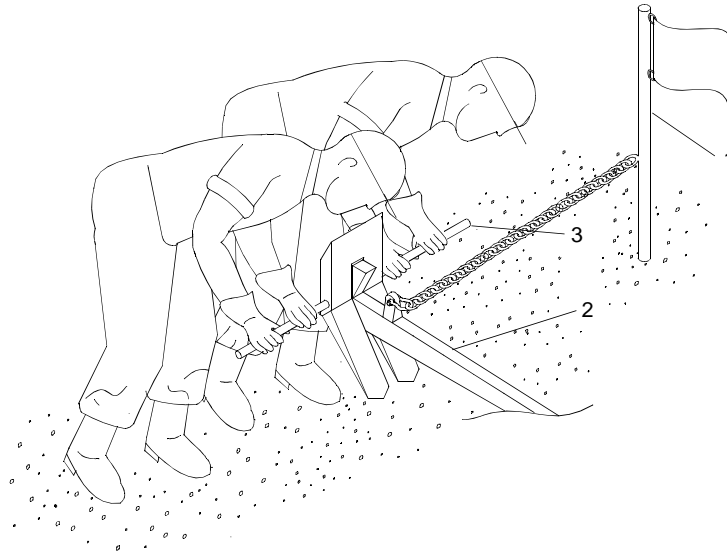

Figure 20. Extracting Onshore Anchors from Beach
10. Remove anchor pendant assembly (figure 20, item 1) from anchor (figure 20, item 2).
11. Using forklift and forklift adaptor, extract anchor (figure 20, item 2) from sand or, using assistant, lift anchors (figure 20, item 2) by stabilizers (figure 20, item 3) from sand.